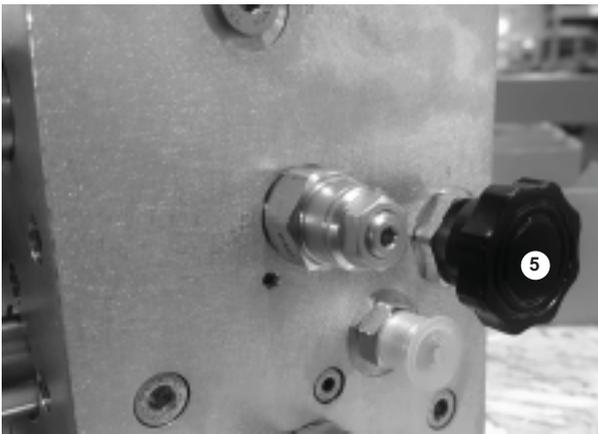

Figure 9.9
3. Inside the hydraulic compartment, open the free-wheeling valve (5) by turning it counterclockwise until the knob stops (see figure 9.9).
5. Once the unit has been safely pushed / towed open the brake release knob (7) by turning it counterclockwise and close the free wheel valve (5) fully (see figure 9.9).